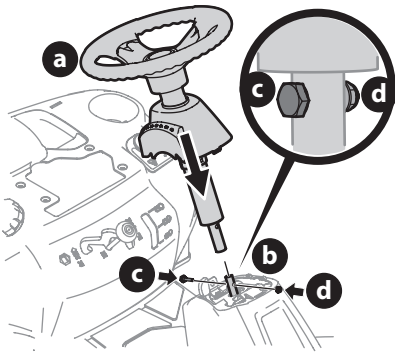

Figure 3
4. Lower the steering wheel assembly (a) onto the lower steering shaft (b) and secure with the shoulder bolt (c) and lock nut (d) previously removed (Figure 3).